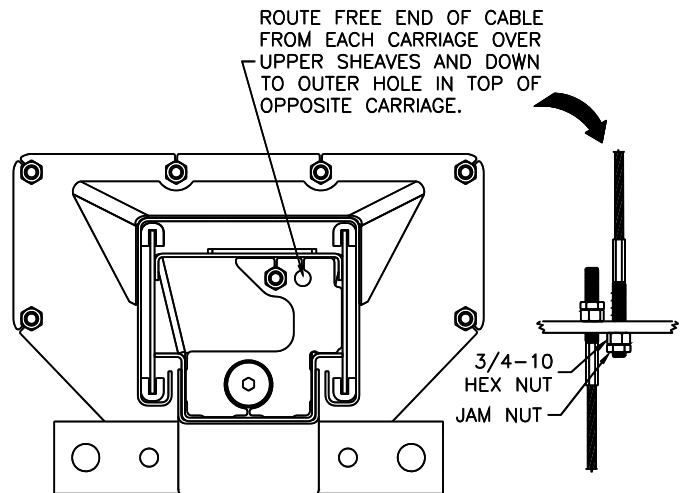

Fig. 12 – Cable Attachment at the Carriage
- 33) Mount synchronizer cables to carriages as shown in **Fig. 12**.